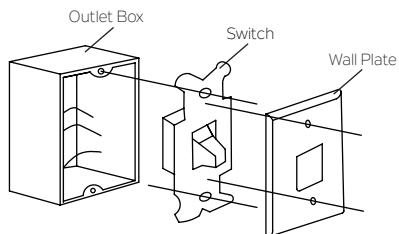

Fig. 17
**Step 1.** Remove the existing wall plate and the old switch from the wall outlet box. Disconnect wires. (Fig. 17)